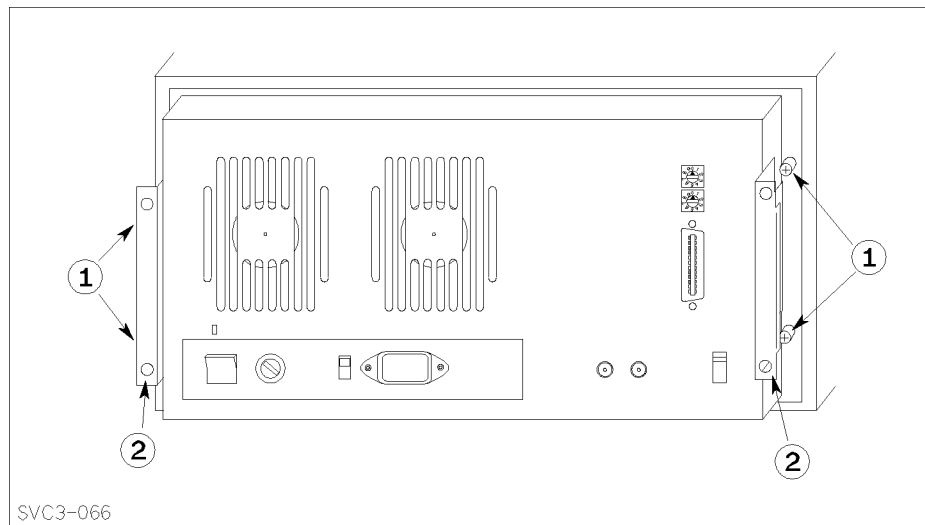

Figure 3-38. Removing the Power Supply Unit from the DCS
2. Loosen the four screws ① from the flanges that secure the power supply unit to the DCS as shown in Figure 3-38.
3. Pull the power supply unit out by grasping the lower part ② of the flanges.